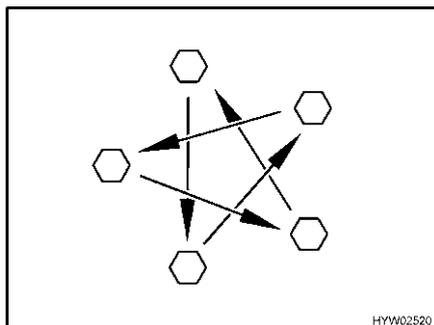

Fig. 183 Tighten the wheel nuts or wheel bolts cross-wise
- Check regularly that the wheel nuts or wheel bolts are firmly seated. Retighten the wheel nuts or wheel bolts of a changed wheel cross-wise (Fig. 183) after 50 km (30 miles). See section 13.5.2 for tightening torque.
- ▷ Tighten the wheel nuts or wheel bolts cross-wise (Fig. 183).